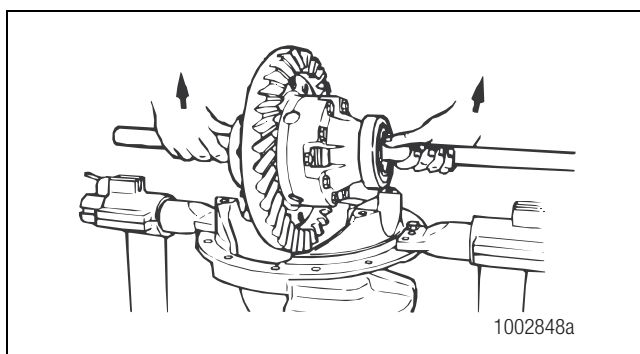

Figure 6.12
13. Lift the differential and gear assembly from the carrier. Figure 6.12.